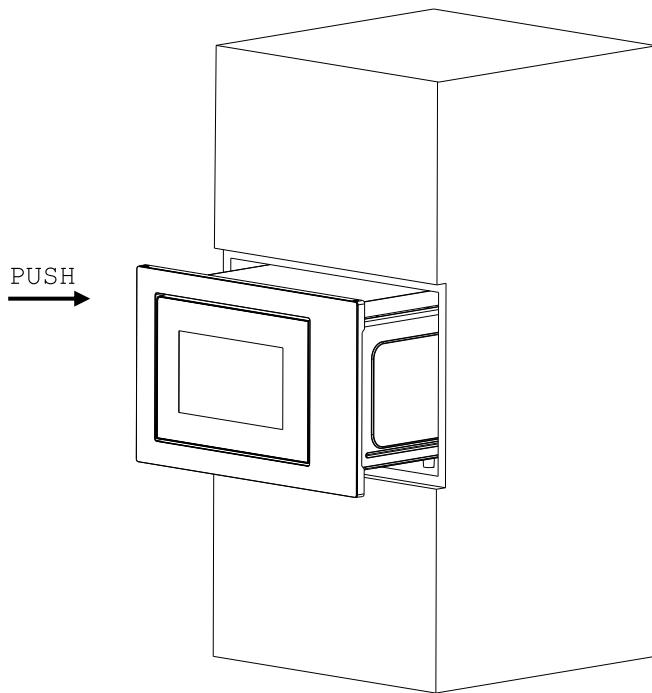

Fig. 1
- a) Put the microwave oven into built-in cabinet and push it forward to the end. (Fig. 1)